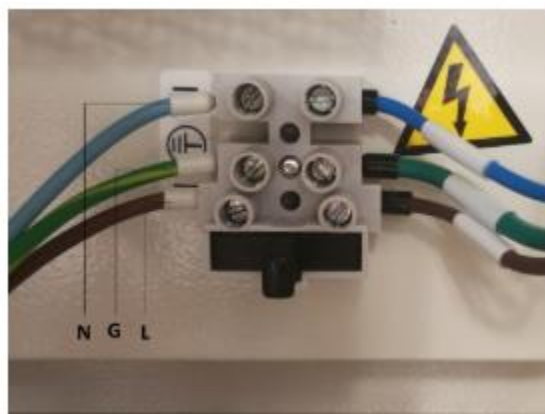

Figure 3. Wiring of AC Power Supply
- The instrument is equipped with power wiring terminals in the electrical cabinet (see Figure 3 and Table 1).